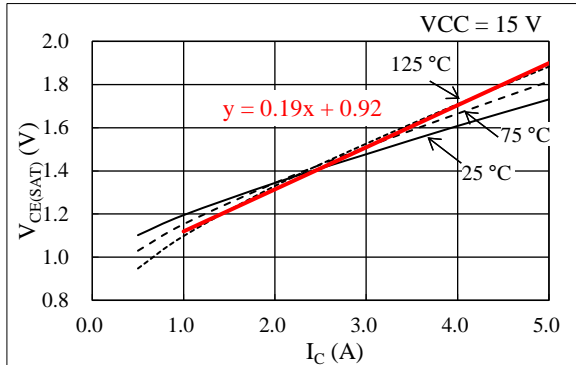

Figure 14-1. Linear Approximate Equation of  $V_{CE(SAT)}$  vs.  $I_C$
Steady-state loss in an IGBT can be computed by using the  $V_{CE(SAT)}$  vs.  $I_C$  curves, listed in Section 15.3.1. As expressed by the curves in Figure 14-1, a linear approximation at a range the  $I_C$  is actually used is obtained by:  $V_{CE(SAT)} = \alpha \times I_C + \beta$ . The values gained by the above calculation are then applied as parameters in Equation (4), below. Hence, the equation to obtain the IGBT steady-state loss,  $P_{ON}$ , is: